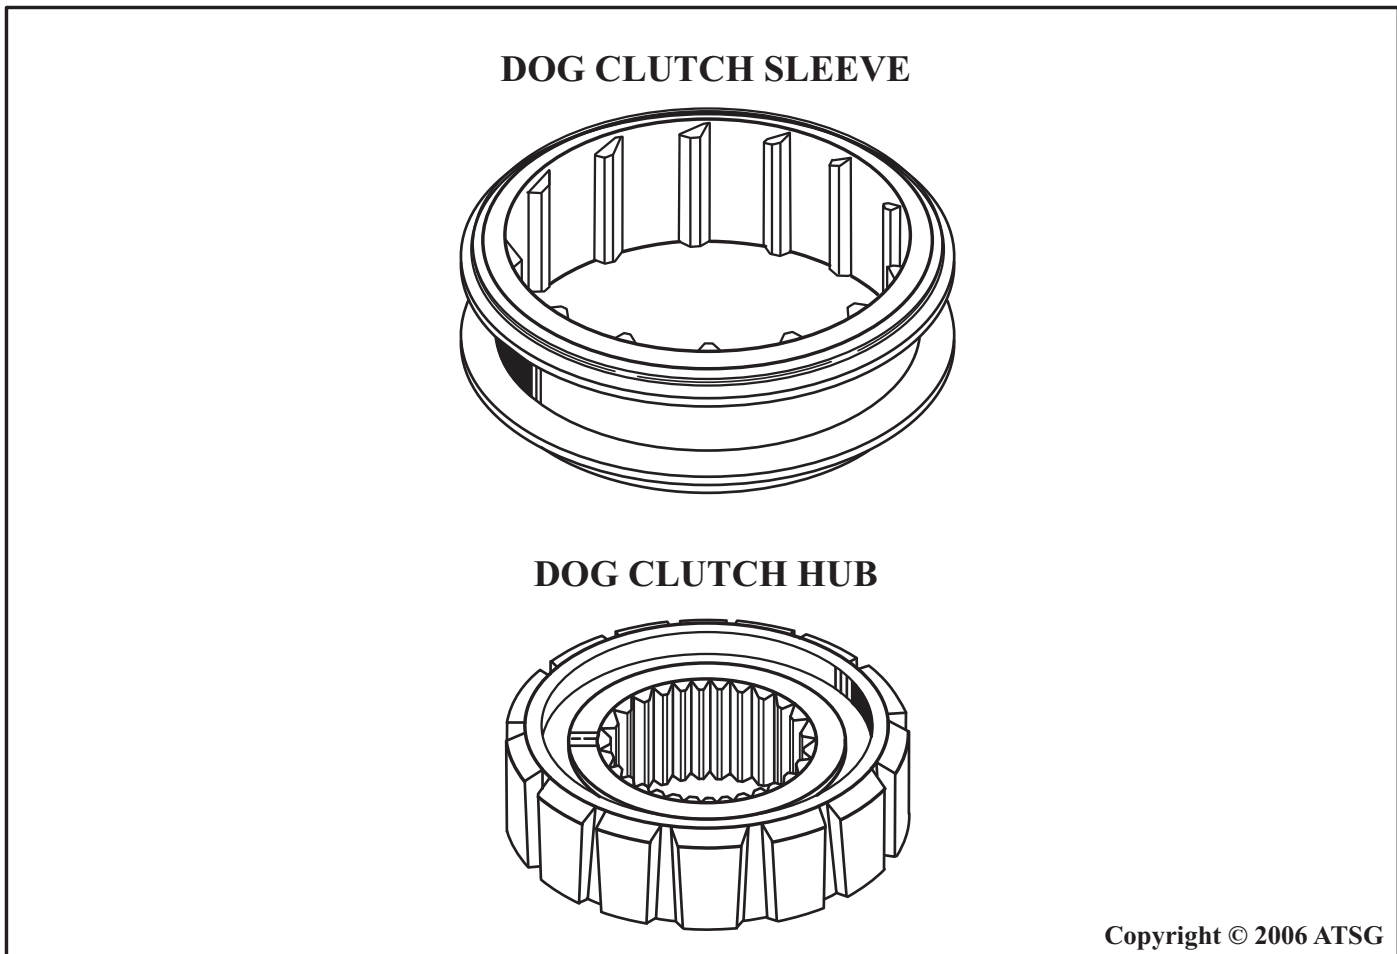

Figure 1
**CAUSE:** The cause may be, during the rebuilding the Dog Clutch Sleeve or the Dog Clutch Hub, as shown in Figure 1, were installed incorrectly.